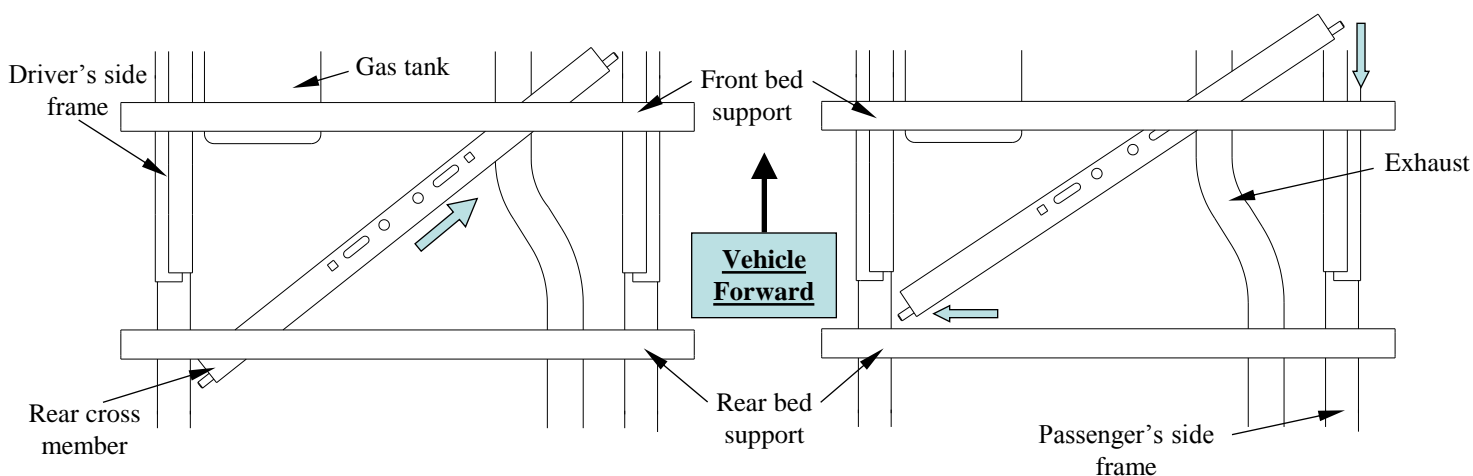

Figure 6a
2. From underneath the vehicle, install the **rear** hitch cross member first by placing the right end over the exhaust and under the front bed support (see Figure 6a). The front and rear cross members are the same.